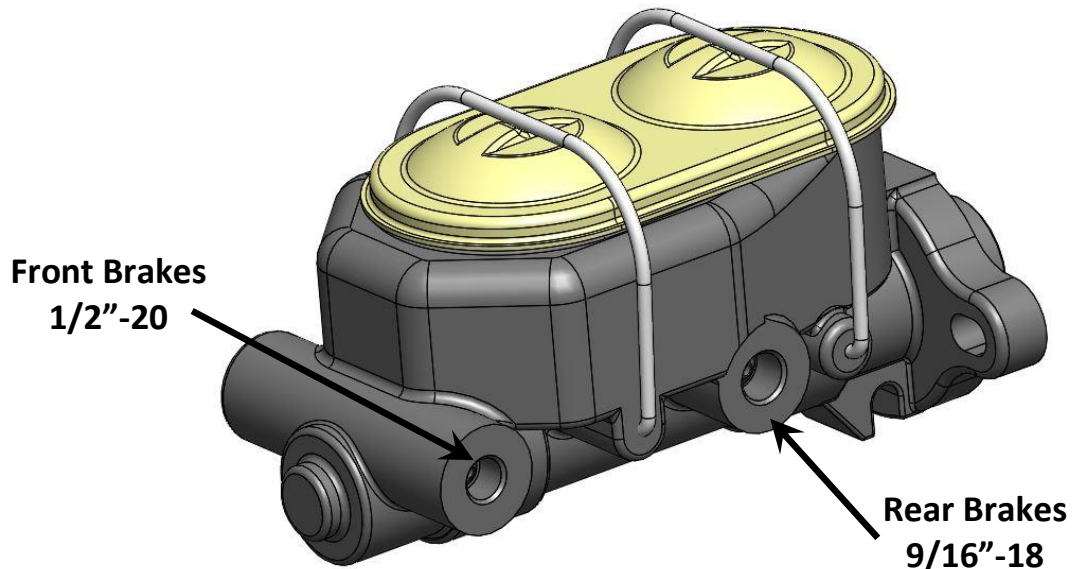

Figure 1 – Brake Line Routing
7. With the entire booster/master combo installed, the master cylinder can be plumbed into the vehicle. Figure 1 below shows proper front and rear hookups for the brake lines.